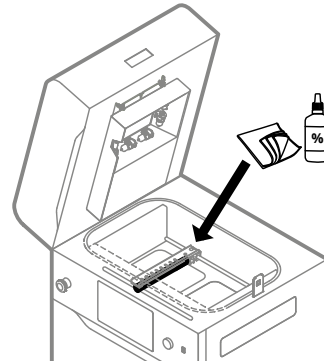

Fig. 12.58 Use the cloth and ethyl alcohol to clean the Recoater roller, when it is above the Feed Bed.
12. Wipe the Recoater roller with dry cloth to remove the powder (fig. 12.58).
13. Next, wipe the Recoater roller using cloth soaked in ethyl alcohol (fig. 12.58). Press **DONE**.